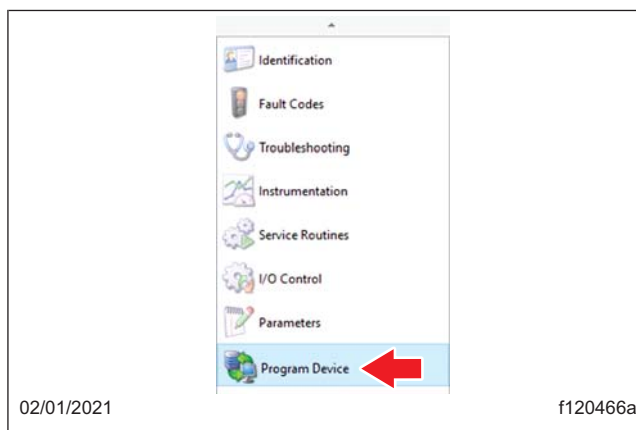
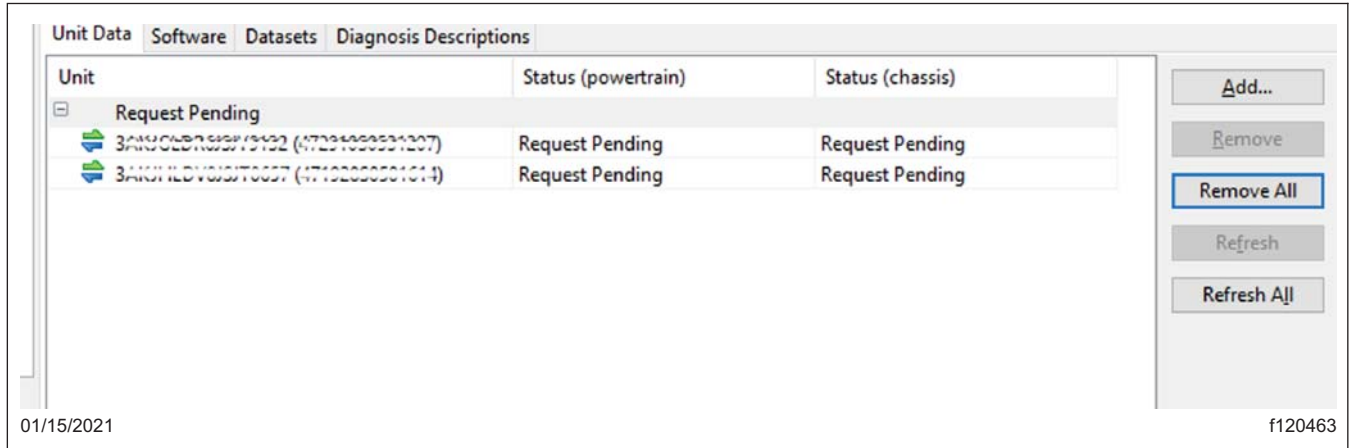

Fig. 2, Program Device Screen
Fig. 3, Removing Pending Requests
3. Select "Program Device." See Fig. 2. If there are any items in the section "Request Pending" downloads, they should be removed. To remove them, select the "Request Pending" list item, then press the "Remove All" button. See Fig. 3.